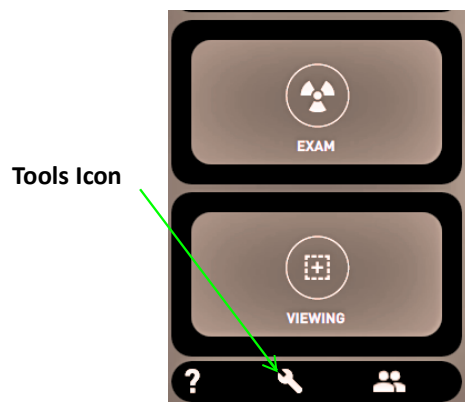

FIGURE 5.2 Main Screen – Tools icon
- Select the **Tools** icon in the lower-left corner of the main screen (FIGURE 5.2).